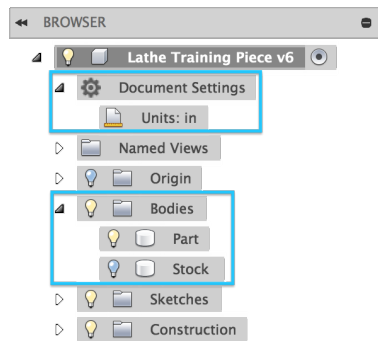

FIGURE 1.7: THE PROJECT BROWSER.
- Also ensure that your units are in imperial (inches). Do this by dropping down the *Document Settings*, Figure 1.7, and double clicking on the units and changing them.
If you open the **Bodies** dropdown in the **Project browser**, shown in Figure 1.7, you can turn on the lightbulb next to the **Stock** body. This is a modeled body that represents the physical material (stock) we will **turn** the final part from, which is an important aspect of CAM. To create this part we will use 1" cylindrical stock. The length of the stock body modeled in Fusion does not matter, as long as it has about $\frac{1}{10}^{\text{th}}$ of an inch in front of the 3D part, and at least an inch past the back of the 3D part. You may notice through inspection of the sketches in the project that the stock body is actually 1.005" in diameter, which accounts for variation in physical stock material and gives us a little bit of a safety cushion.